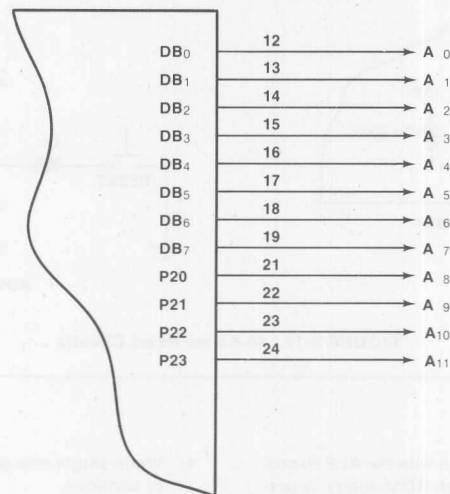

FIGURE 2-14. Address Output Lines
3. At this point, the address taken from the program counter is output on both the Bus and Port 2. This state can last indefinitely. Bus and port bit composition is illustrated in Figure 2-14.